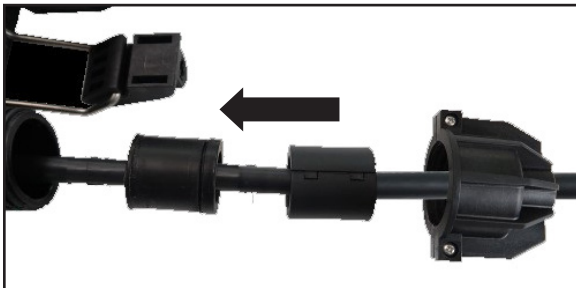

Figure 1-20: Install all the components
- 19 Push and screw all the components for the pass-through cable inward (Figure 1-20).